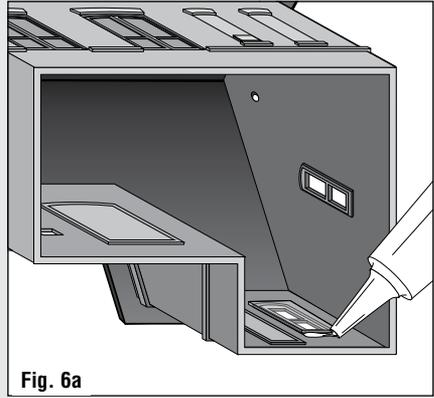

Fig. 6a
- Place Building on its front face with the bottom toward you (**Fig. 6a**).
- Carefully dab a small amount of glue around edges of Window treatment (**Fig. 6a**).